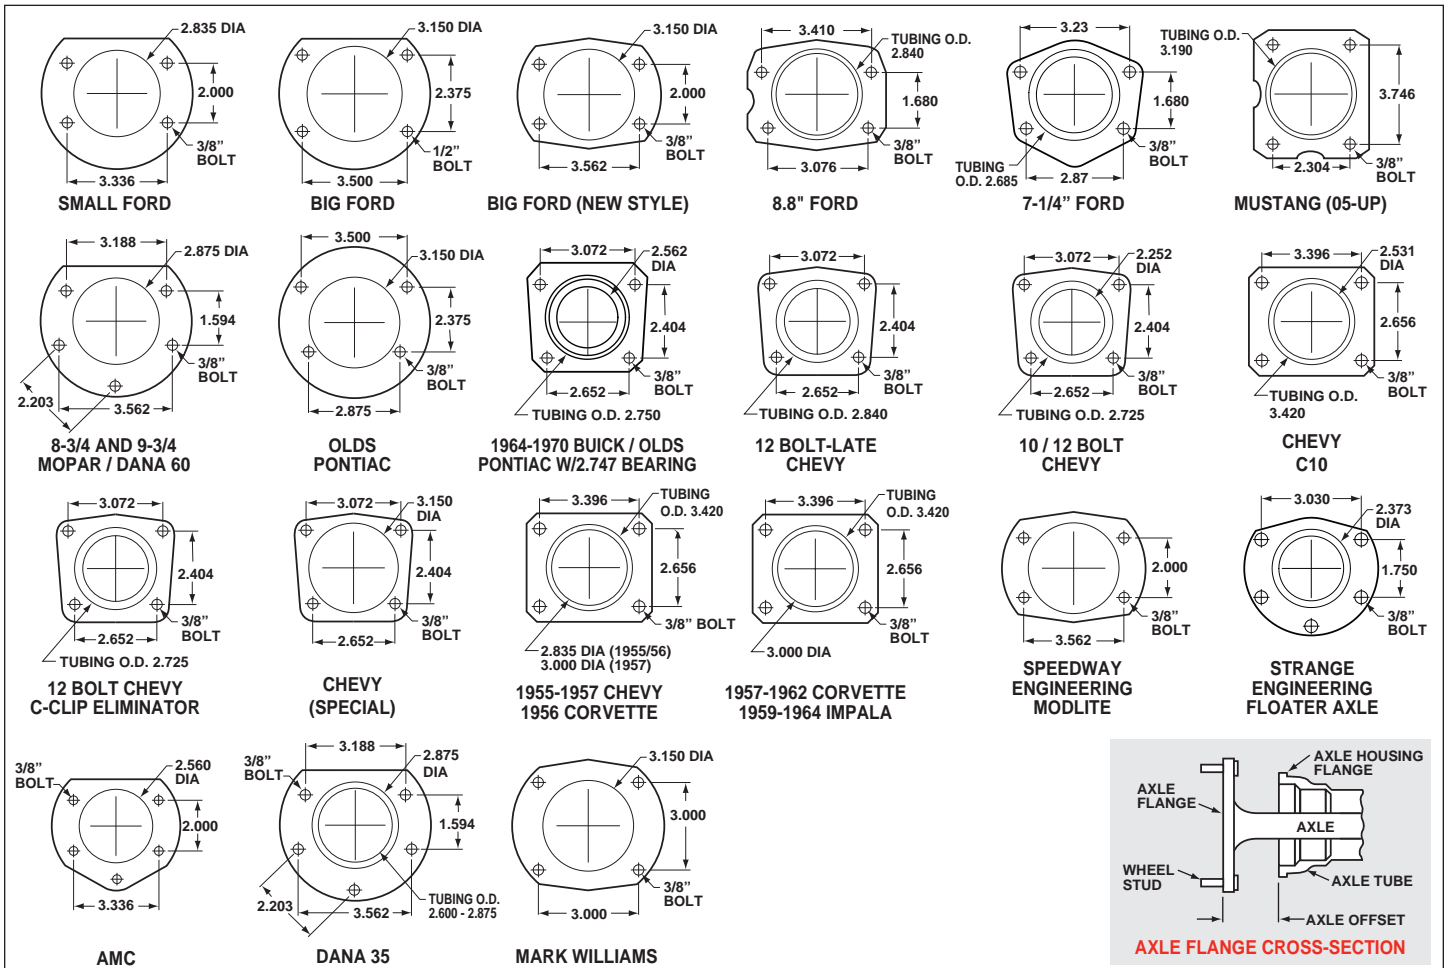

Figure 5. Rear Housing Flange Chart and Axle Flange / Offset Cross-Section
- Make sure this is the correct kit to fit the axle housing flange, not necessarily the rear end make. Many times aftermarket manufacturers put a different make of axle housing flange on the stock rear end housing (Figure 5). Example; Big Ford rear ends with Olds-Pontiac flanges, therefore, an Olds-Pontiac rear disc brake kit would be the correct kit to order. Also, shock clearance may be a problem. They may have to be modified and/or relocated to clear the Wilwood kit after final assembly.
- Dimension from wheel side of axle flange to wheel side of axle housing flange, "axle offset" (see Figure 5, lower right hand corner). This dimension is critical to ensure proper alignment of the rotor to the caliper, and should match offset given in the kit description. **NOTE: Left side only; leave OEM shim stack in place against axle housing when measuring offset.**